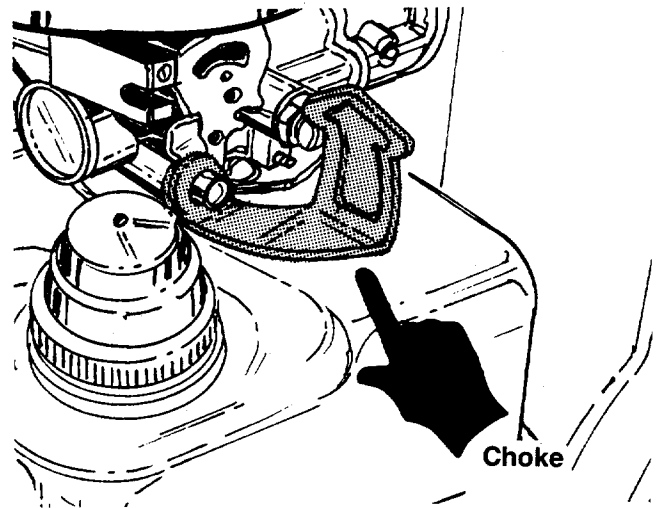

FIGURE 21.
3. Move choke lever to CHOKE position. See figure 21. After the engine starts, gradually push the choke lever off.